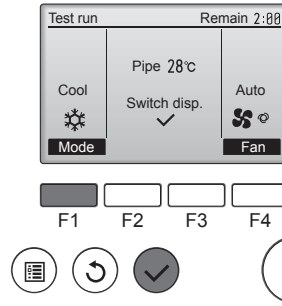

Fig. 6-5
- Press the **F1** button to go through the operation modes in the order of "Cool" and "Heat". (Fig. 6-5)